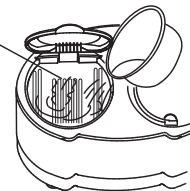

Figure 1
- Control panel's frame (Figure 1),
(Figure 1)
2. Fill the water and add the dissolved washing powder to make the water level reach the preset position. Run washing program for some time to stir and dissolve the powder completely.(Figure 1)